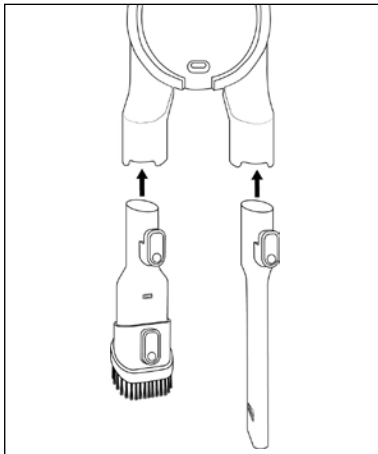

Fig. 15
- ◆ Remove accessories from the appliance. Insert it for storage on the accessories holder of the wall bracket **16** so that it audibly clicks (see Fig. 15).